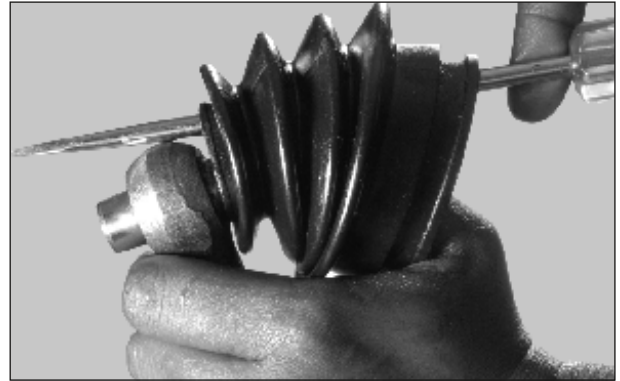

Fig. 5.66
- First insert the bellow on the propeller shaft. Insert the screwdriver from big end of the bellow and pull over small end of the bellow on the spherical end of propeller shaft . (Fig. 5.66)